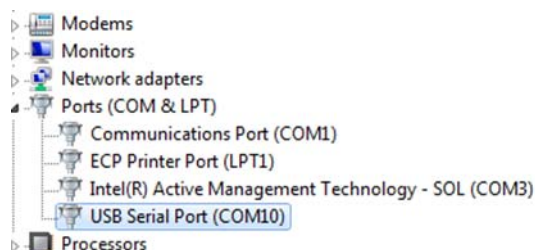

Figure 3-17: Windows Device Manager > Ports
4. After connecting the HPA, the target PC should recognize the newly connected hardware and connect to it using the previously installed VCP FTDI drivers. Wait until this process is complete. Check the Windows device manager Ports section and note the newly added USB Serial Port (See **Figure 3-17**). You will need a COM port designator in the next step.